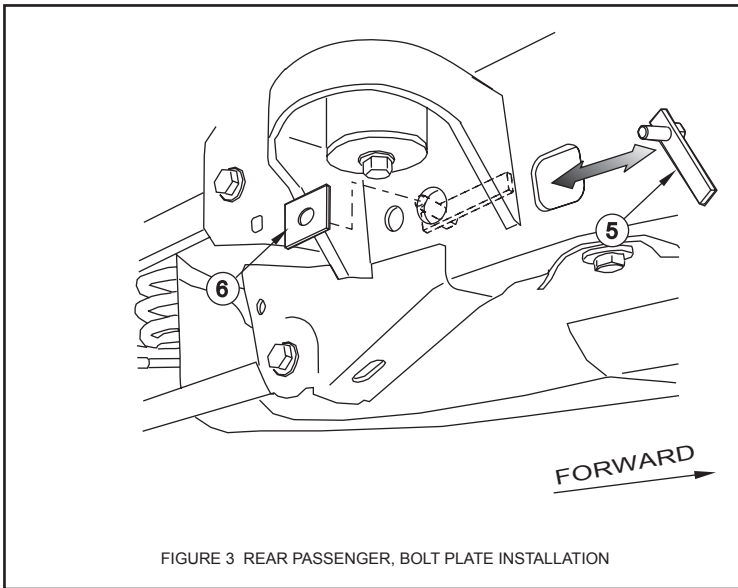
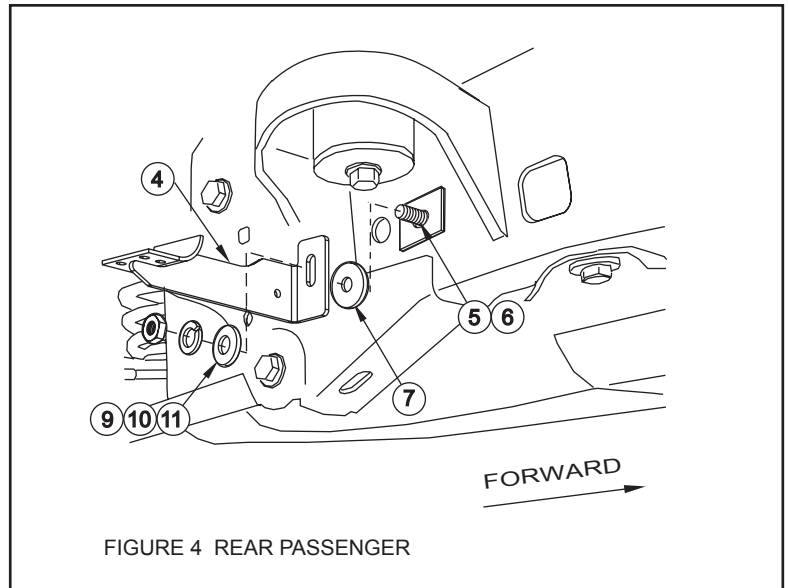

FIGURE 3 REAR PASSENGER, BOLT PLATE INSTALLATION
FIGURE 4 REAR PASSENGER
- STEP 5.** Locate rear hole on passengers side of frame. **SEE FIGURE 3.** Insert bolt plate through square opening on the backside of frame. Secure in place with plastic washer. Place spacer washer over the plastic washer. Attach drivers side rear bracket to bolt and secure with a 1/2" fasteners. Leave loose. **SEE FIGURE 4.**